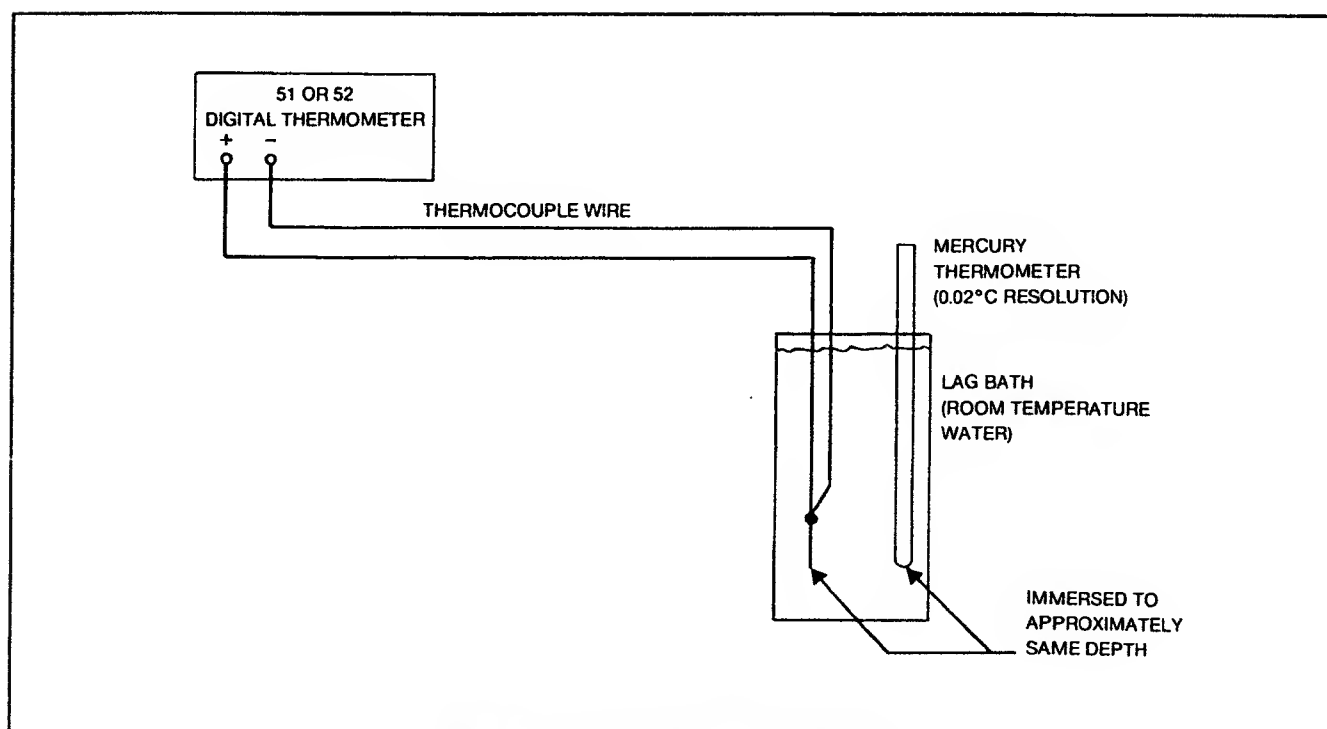

Figure 3-6. Room Temperature Lag Bath
1. Construct an ambient temperature lag bath as shown in Figure 3-6.